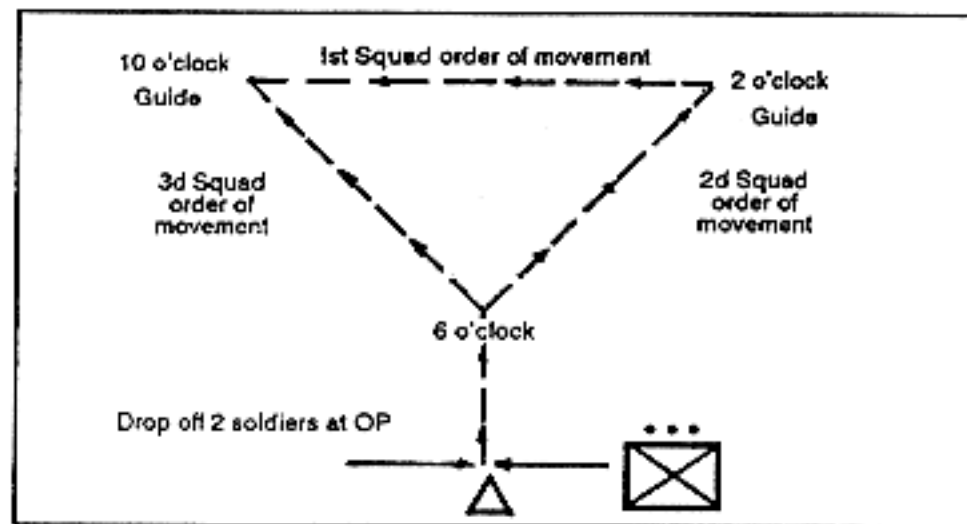

Figure 5-18. Triangular Patrol Base.
(4) Occupation (Platoon). Leaders Recon Technique. (Triangular perimeter - see figure 5-18).
(c) Assign sectors of fire to all personnel and weapons. Develop squad sectors sketches and platoon fire plan. (see figure 5-18)